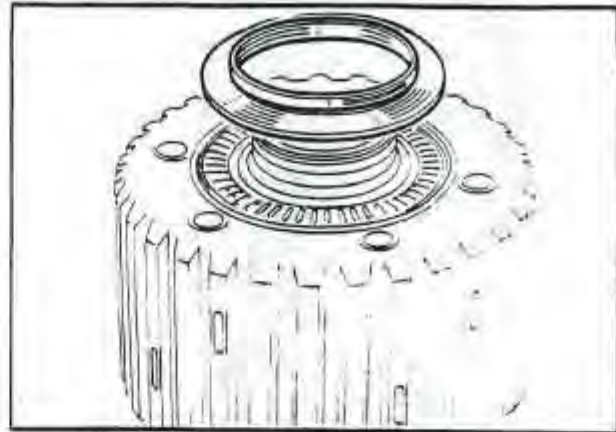

Fig. 35 CLUTCH C-1 NEEDLE BEARING
12. Remove the needle roller bearing and washer from the top of clutch C1. *Fig. 35*